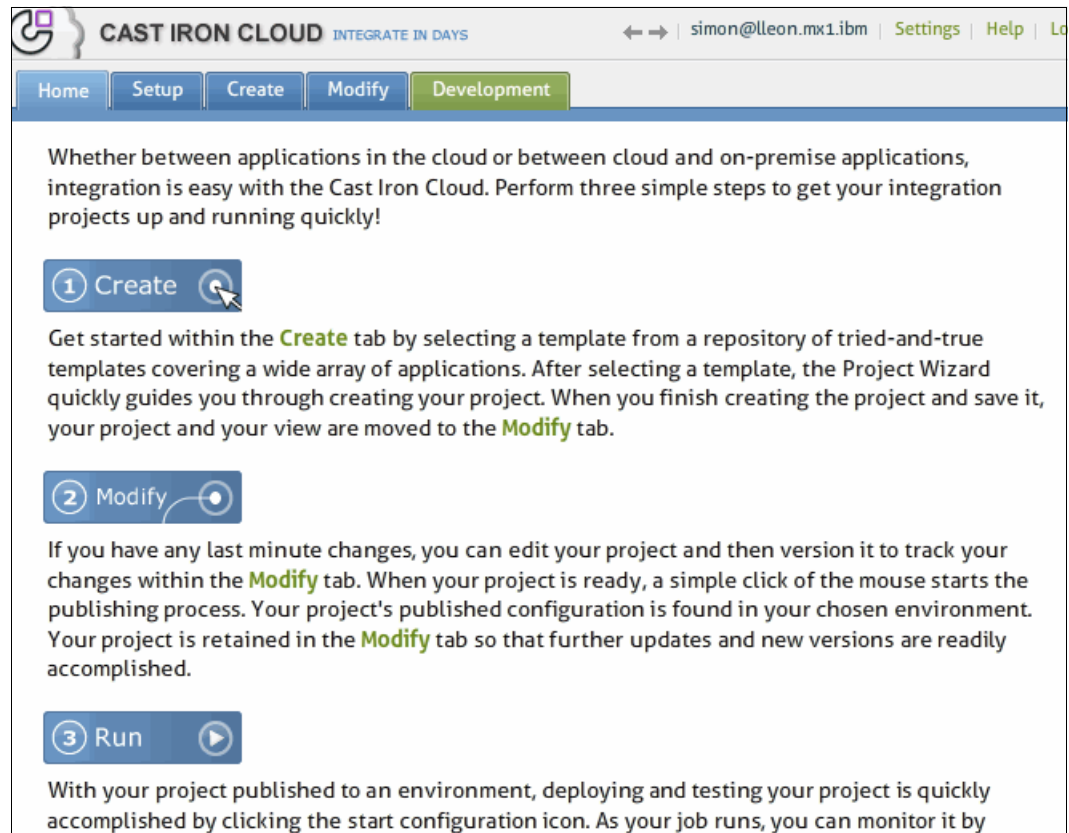

Figure 11-3 Cast Iron Live Home tab
2. Enter your user name and password, and click **Log In**. The Cast Iron Home tab displays, as shown in Figure 11-3 on page 438.